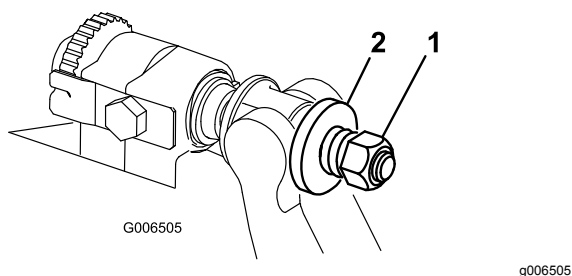

Figure 32
4. Tighten the locknuts equally on each side until the outer steel washers cannot be rotated by hand. Then loosen the locknuts until the outer steel washers just rotate by hand, yet there is no bedbar end play (Figure 32).
10. Tighten the nut on each bedbar adjuster assembly until the compression spring is fully compressed, then loosen the nut 1/2 turn (Figure 32).